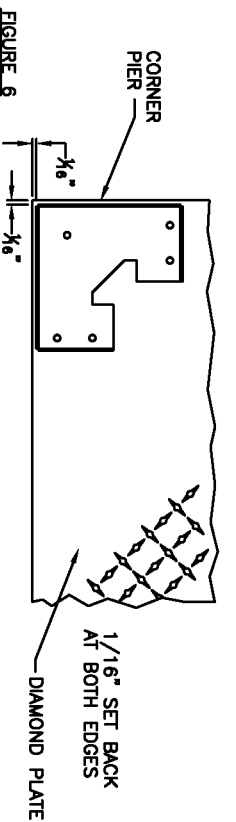

FIGURE 6
ATTACH CORNER BASE PLATES (SEE FIG. 6) WITH (5) 1/4x 3/4 HEX HEAD SELF DRILLING SCREWS FOR EACH PLATE. ONE BASE PLATE IS REQUIRED AT EACH CORNER OF BUILDING.